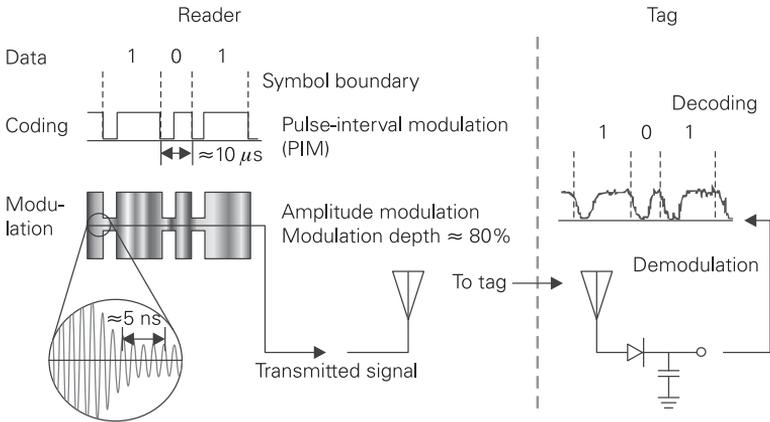

FIGURE 2.8 Example of modulation and encoding
Some of the encoding techniques are non-return-to-zero (NRZ), return-to-zero (RZ), Manchester Phase Encoding (MPE), pulse interval encoding (PIE), and FM0. Some of these encoding schemes are discussed when RFID protocols that use them are covered later in the book. Figure 2-8 shows an example of modulation and encoding schemes.